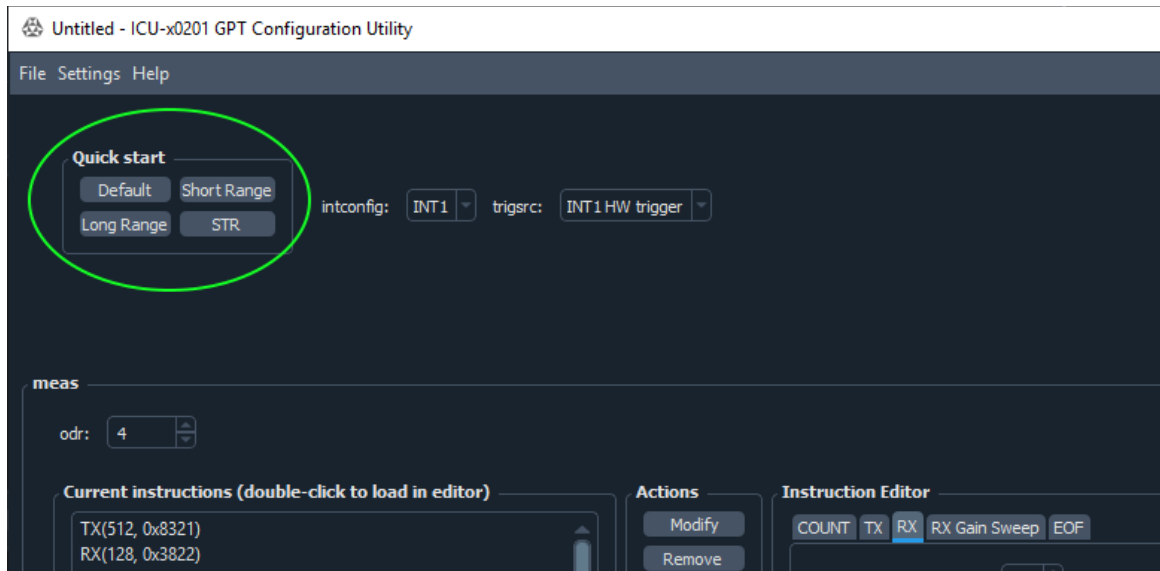

Figure 2. ICU-x0201 GPT Configuration Utility Quick Start Options
3. There are four “Quick Start” templates provided with the ICU-x0201 GPT Configuration Utility (see **Figure 2**):